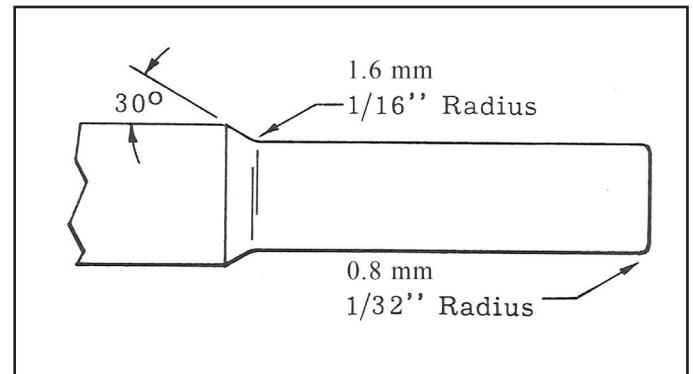

Figure 5-1. Undercutting to a shoulder
2. When undercutting to a shoulder, be sure to feather up to the shoulder at a 30° angle (from the surface) (figure 5-1). If an external corner is going to be sprayed, it should have a radius of at least 0.8 mm (1/32").